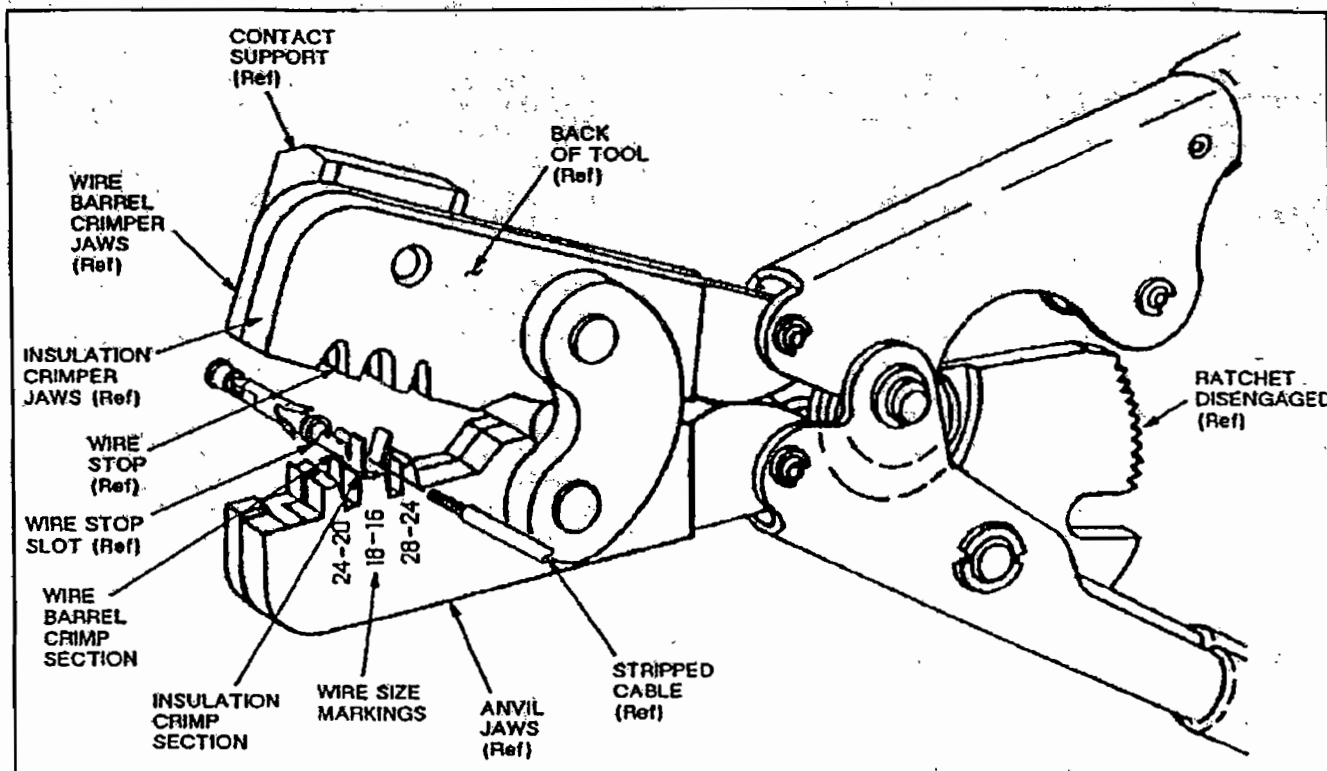

Fig. 2
3. CRIMPING PROCEDURE (Figure 2)
Select a loose-piece contact (see Figure 1); then determine appropriate crimp section (according to the wire size markings on the BACK of the tool). The color dot or wire size marking on the contact must match the wire size marking on the tool jaw. Refer to Figure 2 and proceed as follows:
3. Align contact wire stop slot with the wire stop in the crimping jaws. The contact insulation and wire barrels must be positioned in the crimp section as shown in Figure 2.